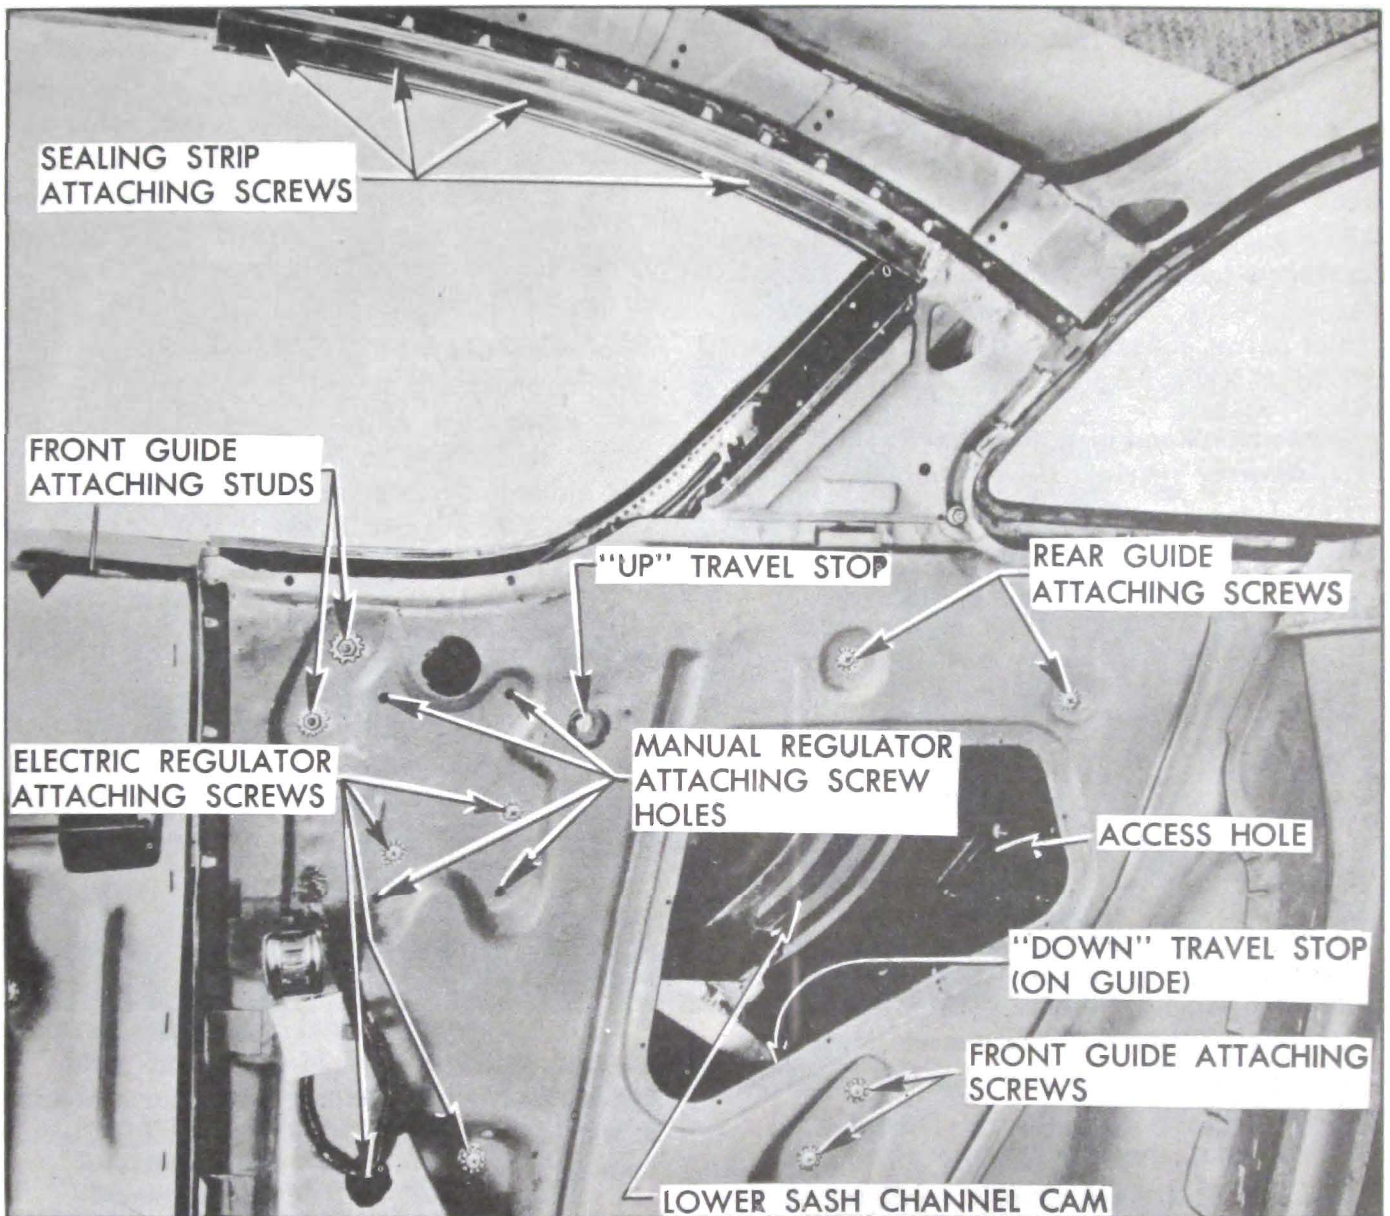

Figure 13-230—Rear Quarter Window Installation
7. To install, reverse removal procedure. Figure 13-230.
5. Remove access hole cover. To adjust rear quarter window "down" travel, loosen down stop attaching screw at lower area of front guide; adjust down stop as desired, and tighten attaching screw. Fig. 13-230.
5. To install, reverse removal procedure. Figure 13-230.
3. To install, reverse removal procedure. Figure 13-230.
4. To install, reverse removal procedure. Figure 13-230.
The rear quarter window sealing strip attaching holes are over-sized to permit "in and out" and "fore and aft" adjustment. To adjust, loosen attaching screws, and adjust as required; then tighten screws. Figure 13-230.